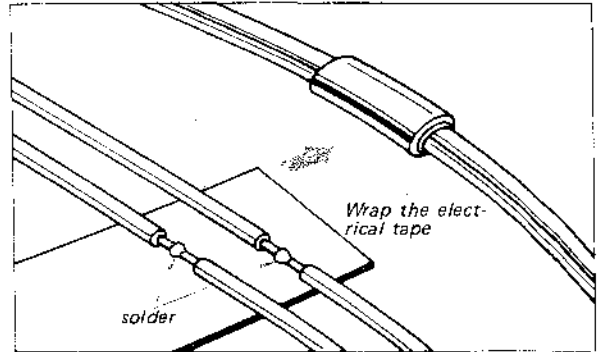

Fig. 2-14. Stereo lamp replacement
3. Cut the lamp leads and solder the lead wires to the new lamp as shown in Fig. 2-14.
4. Wrap the soldered connections with electrical tape as shown in Fig. 2-14.